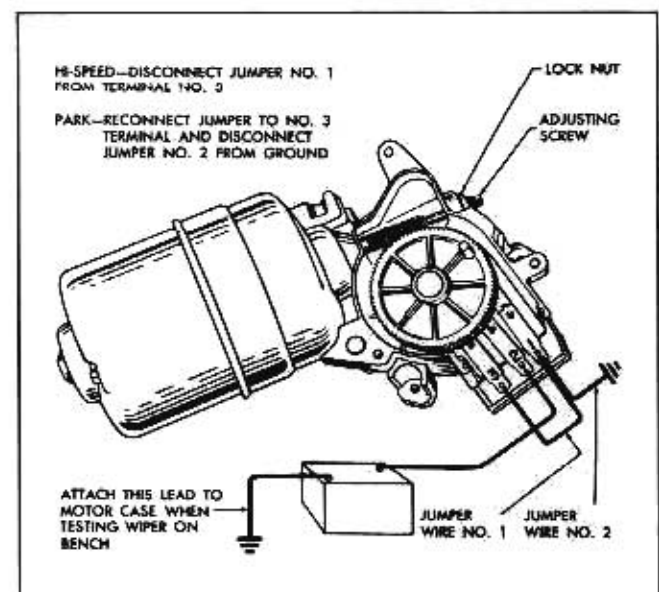

Fig. 11-75 Checking Wiper
2. Operate wiper to park position (Fig. 11-75).
Loosen end play adjusting screw lock nut, Figure 11-75, and tighten the adjusting screw until finger tight. Then back off $\frac{1}{4}$ turn and tighten lock nut.
1. With ignition switch "On" check power source (12 V.) to center or No. 2 terminal of wiper terminal board (Figure 11-75).
2. To determine if dash switch or car wiring is the source of trouble, try to operate the wiper as shown in Figure 11-75.
2. By-pass car wiring and dash switch and operate wiper as shown in Fig. 11-75.
1. By-pass car wiring and dash switch and connect up wiper as shown in Figure 11-75. This should operate wiper in "Lo" speed (approximately 35-45 wipes per minute).
1. By-pass car wiring and dash switch and connect up wiper as shown in Figure 11-75. This should operate wiper in "Lo" speed. Next, disconnect jumper wire No. 1. This should operate wiper in "Hi".
“Lo” Speed —Using an ammeter in the feed wire circuit from battery, connect up wiper as shown in Figure 11-75.